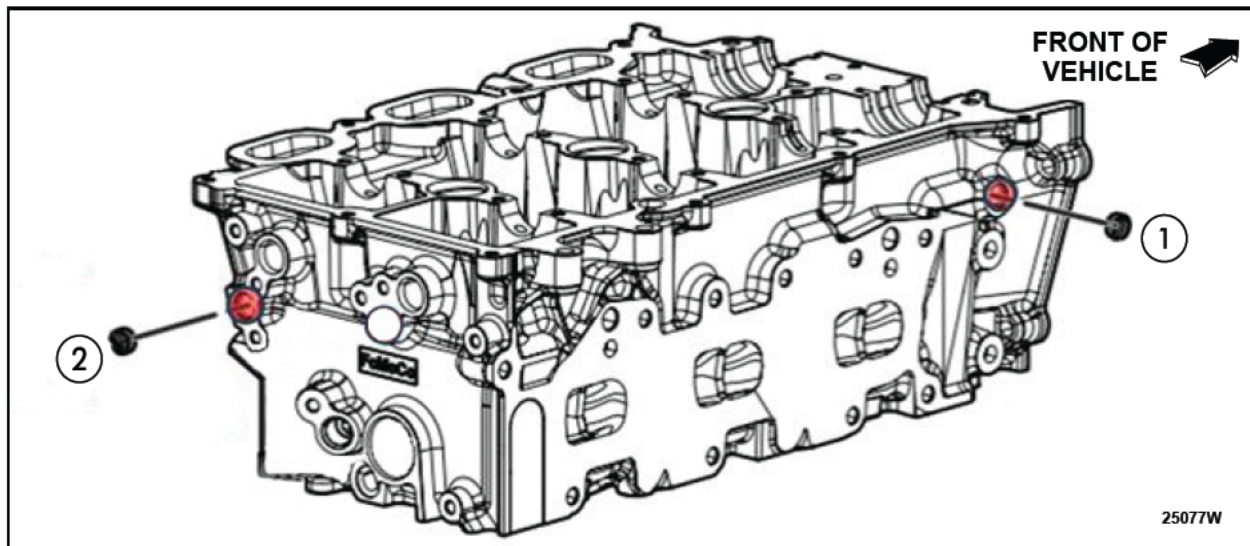

FIGURE 15
* For cup plug locations, See Figure 15 below.